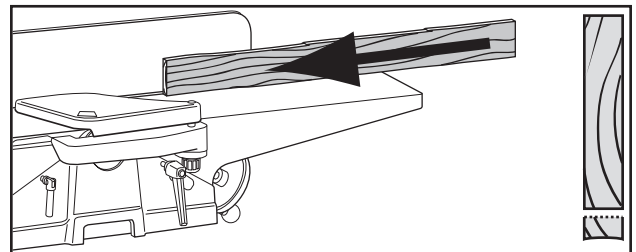

Figure 41. Edge jointing on jointer.
1. Edge joint concave edge of 2x4 flat on jointer, as shown in **Figure 41**.